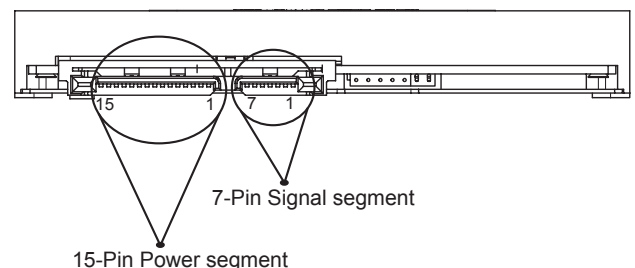

Figure 2 Serial ATA Connections
Using a SATA cable, connect the A35FB to the SATA interface. The SATA signal cable should be no longer than one (1) meter in length for a successful connection. The SATA power cable provides +5V power through the 15-pin power segment in Figure 2. The